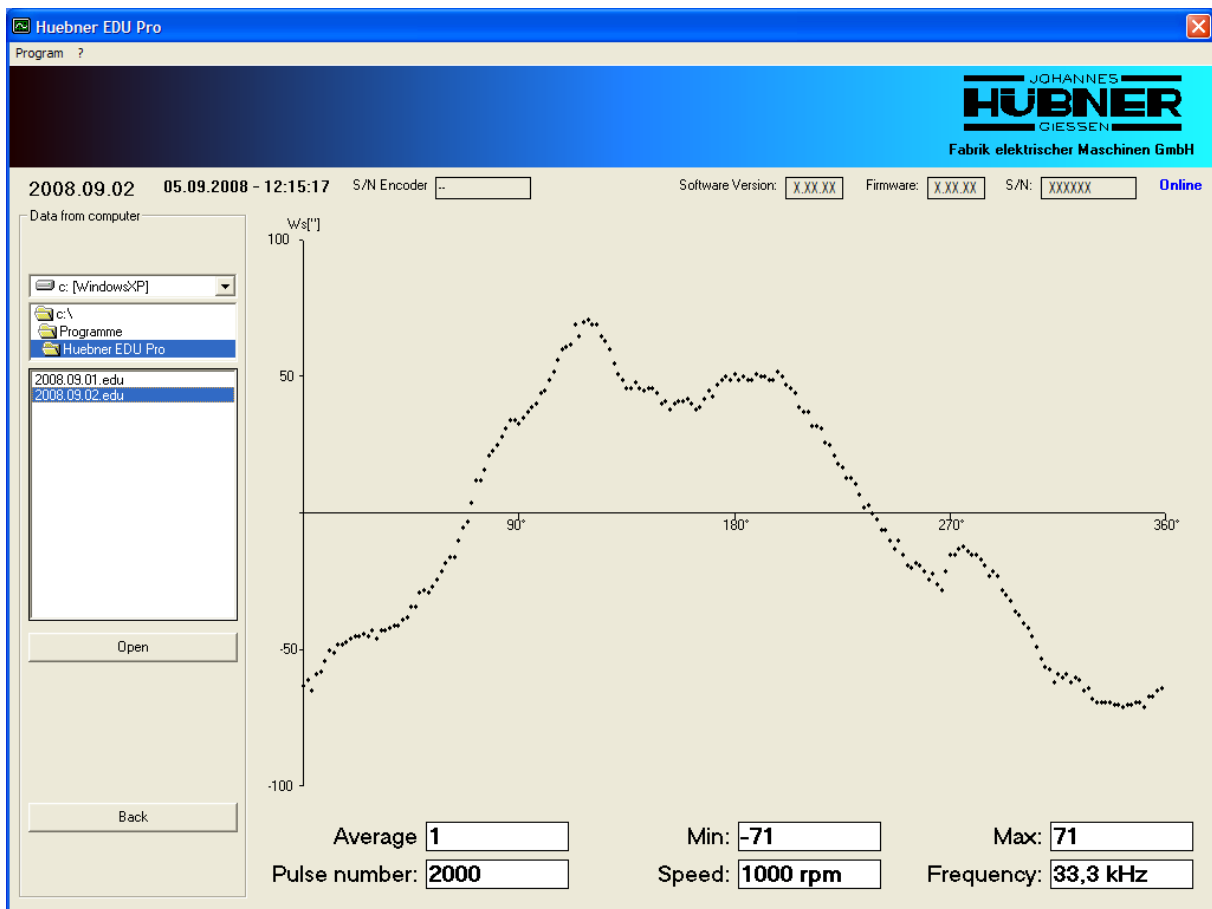

Fig. 18: Data from computer
6. – “Data from computer” button. Continue Fig. 18.